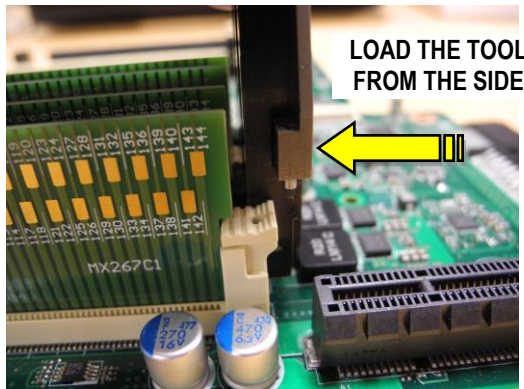

Figure 2
3. Approach the socket from the side with the extraction tool (the tool cannot be placed on the sockets directly from the top). See Figure 2.